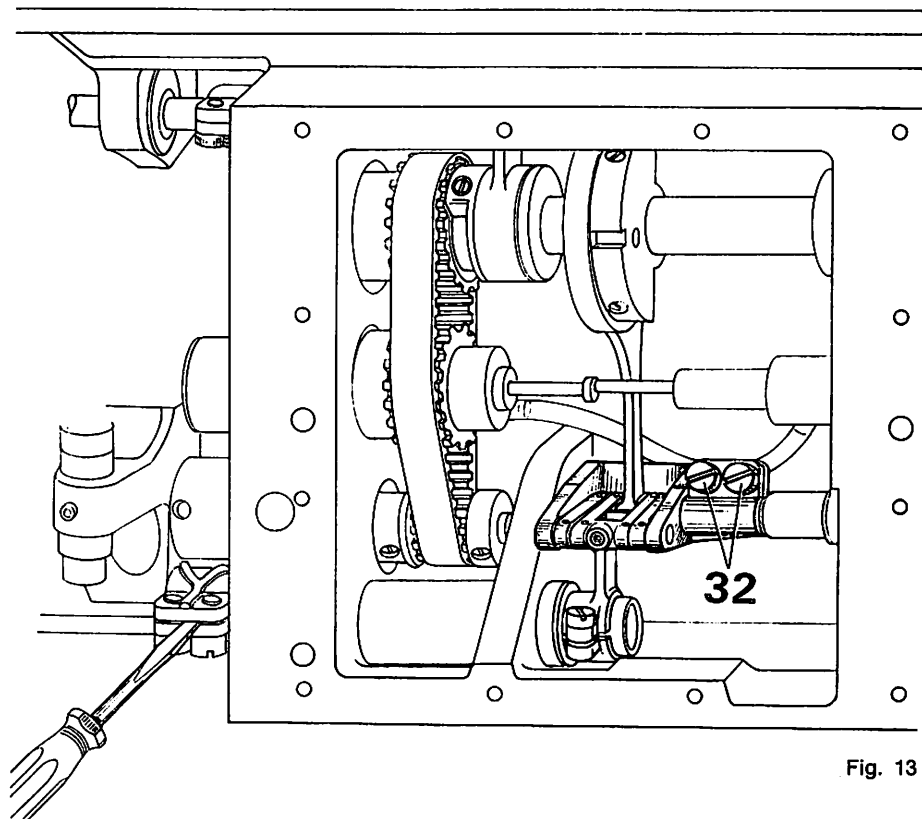

Fig. 13
10. Zeroing the Feed Motion (Fig. 13)